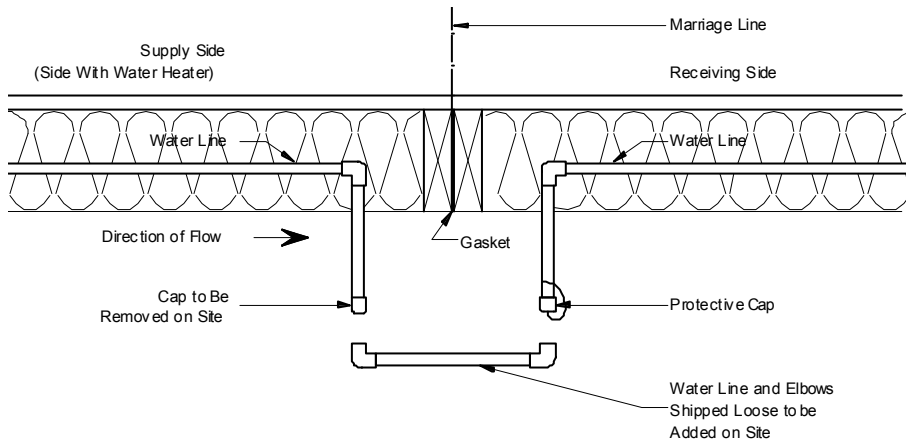

Figure 69. Water line crossover through bottom board
2. **Connect pipes.** Connect threaded water lines using flexible pipe or a rigid connector line (if provided) and connector fittings (do not use lubricants or sealants). Connect non-threaded water lines, pipe, and elbows with cement provided, inserting pipe to full depth of each fitting (**Figure 69**).